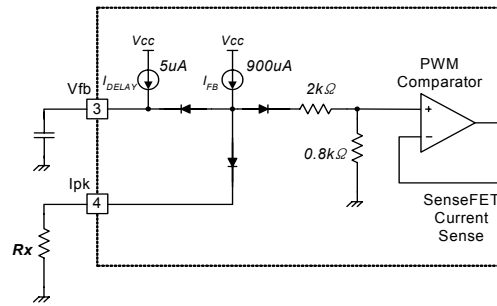

Figure 13. Peak Current Limit Adjustment
8. Adjusting Peak Current Limit : As shown in Figure 13, a combined $2.8k\Omega$ internal resistance is connected to the non-inverting lead on the PWM comparator. A external resistance of R_x on the current limit pin forms a parallel resistance with the $2.8k\Omega$ when the internal diodes are biased by the main current source of $900\mu A$.